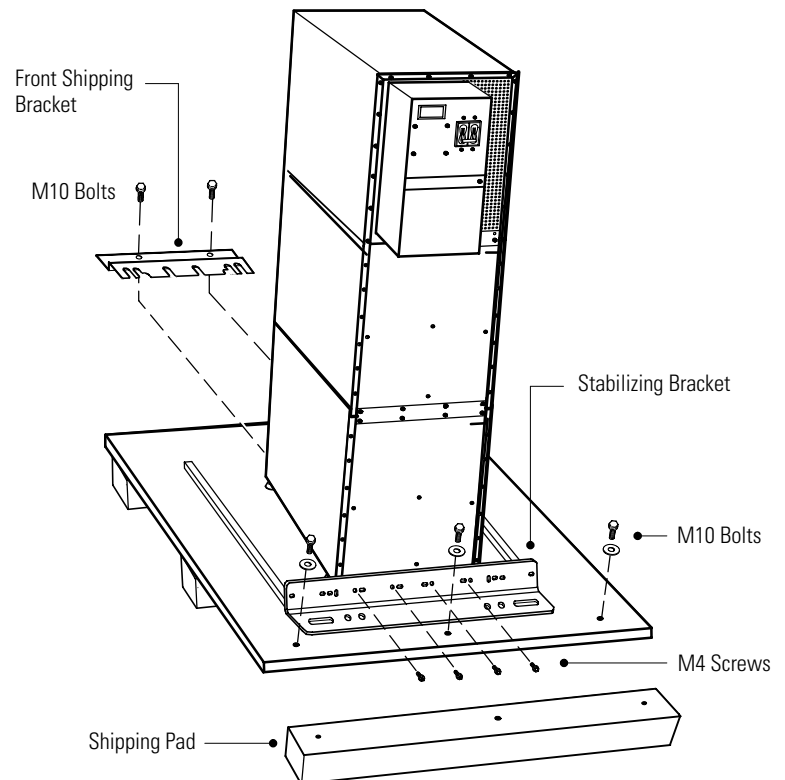

Figure 3. Removing the Brackets and Shipping Pad
- Remove the four M4 screws securing the stabilizing bracket to the cabinet rear panel and remove the bracket (see Figure 3). Retain the hardware for later use.
- Remove the three M10 bolts securing the rear shipping pad to the pallet and remove the shipping pad (see Figure 3).
- Remove the two M10 bolts securing the front shipping bracket and remove the bracket (see Figure 3).